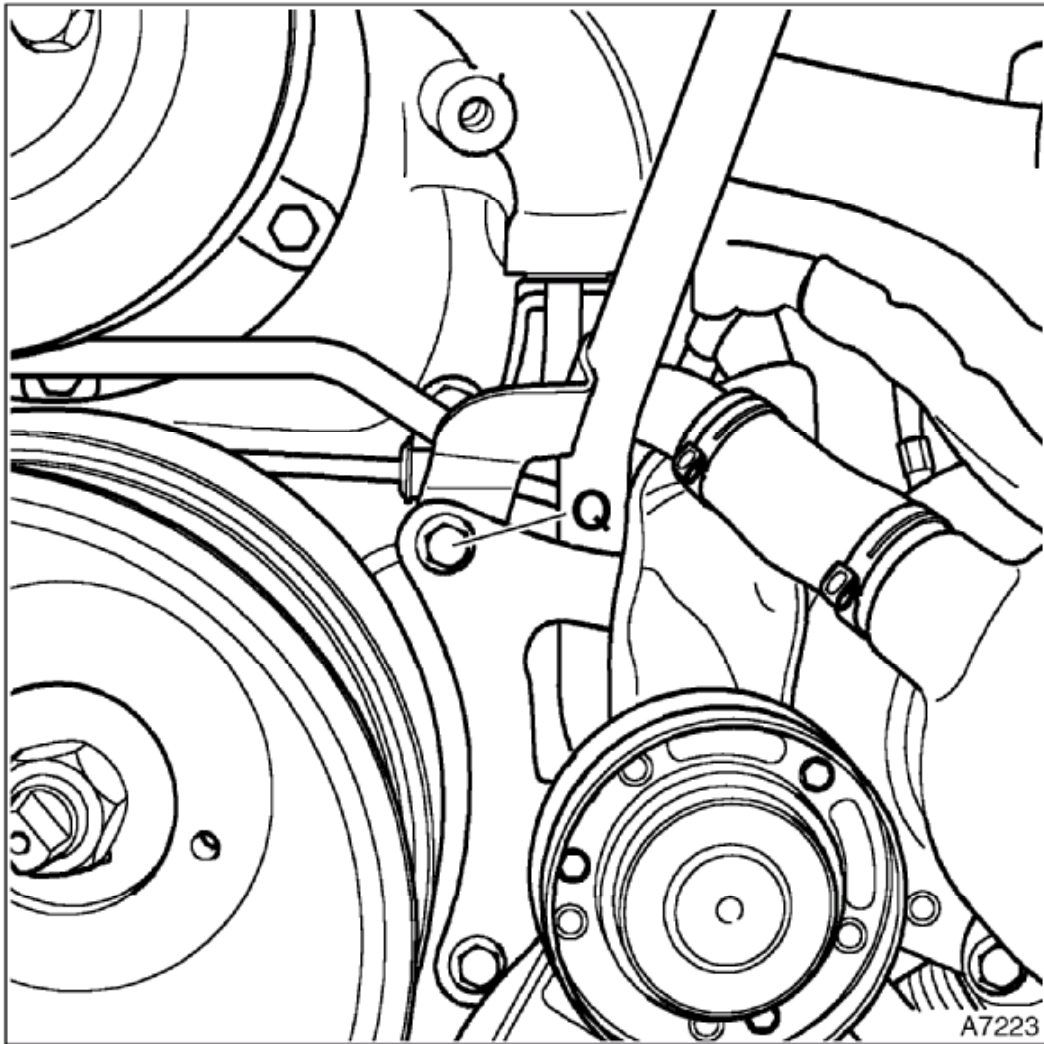

Figure. 9
22. Remove the bolt Q, from the lower bracket on the pump to chargecooler pipe. This will allow side movement of the pipe, increasing access to the sensor probe. See figure 9